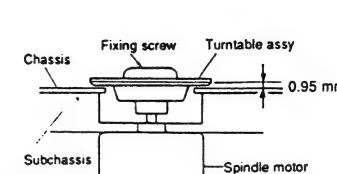

Fig. 4
- Adjust the height as shown in Fig. 4.